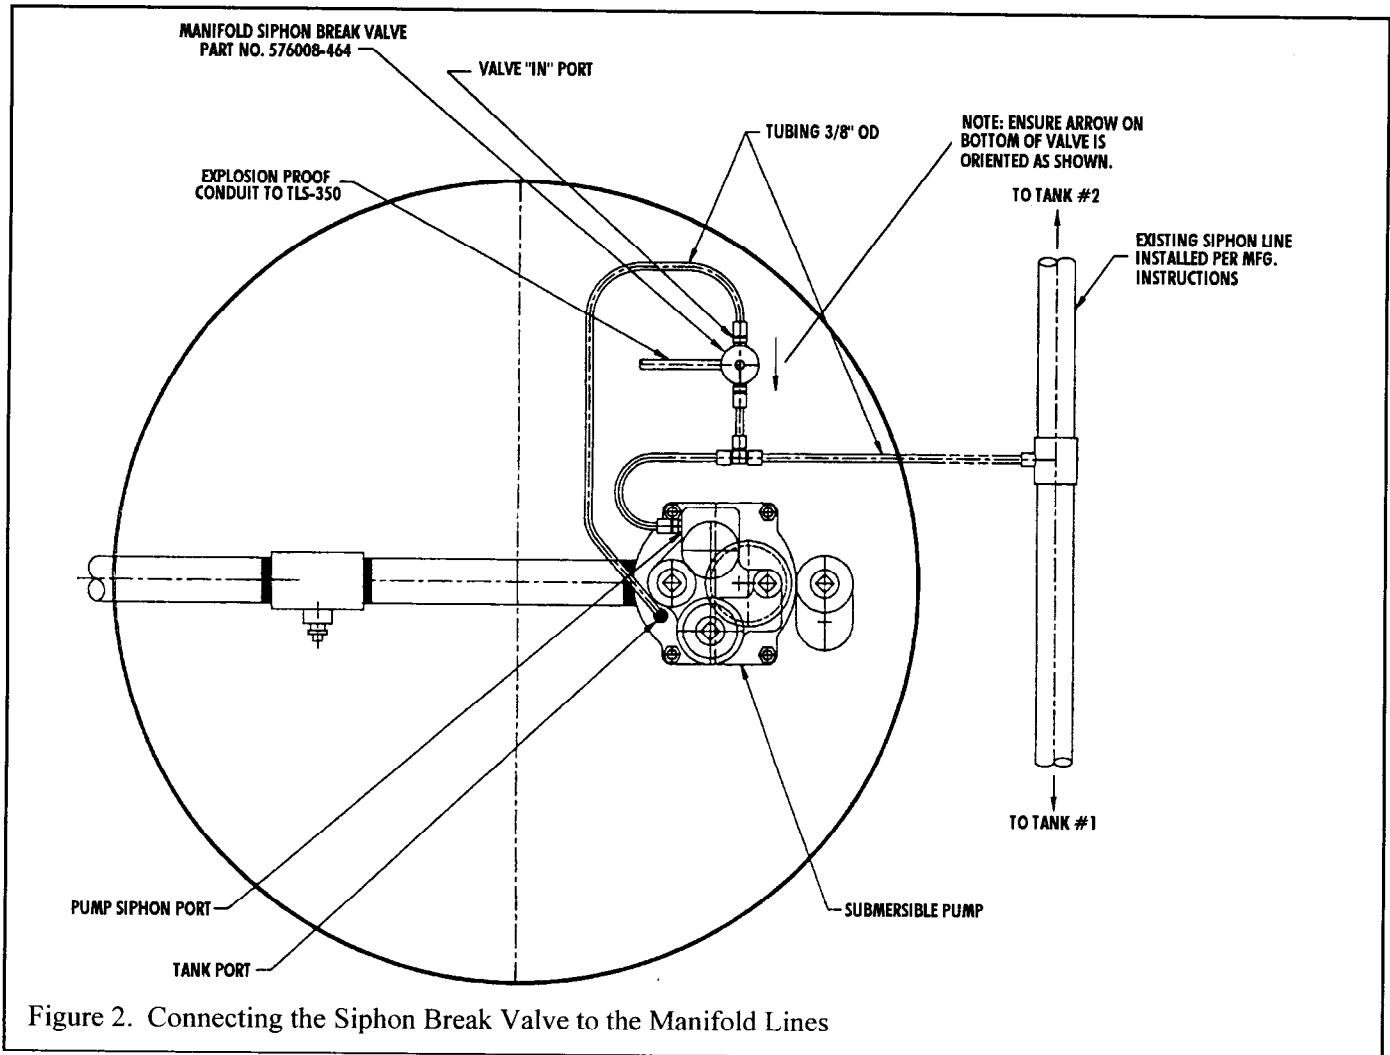

Figure 2. Connecting the Siphon Break Valve to the Manifold Lines
2. Connect the Siphon Break Valve (Part No. 576008-464) to the tank manifold lines (Figure 2 on page 3), making sure the arrow on the bottom of the valve is oriented as shown. You can make the connection to the pump tank port after system checkout. The valve is supplied with 3/8-inch NPT female ports to facilitate connection to 3/8-inch tubing.
4. De-energize the valve and remove the vacuum gauge, connecting piping as shown in Figure 2. You can reestablish the siphon by running the submersible pump for ten minutes.